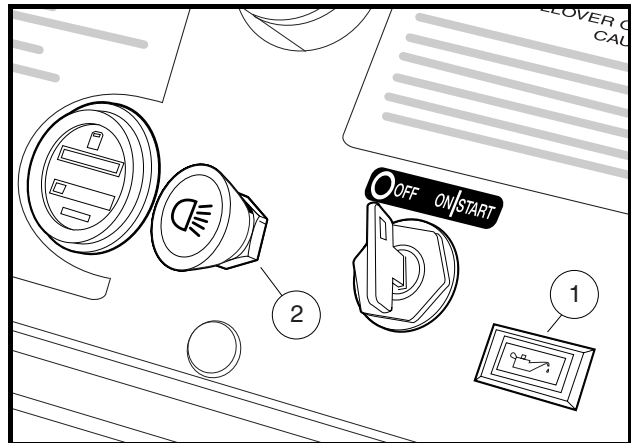

Figure 14 Low Oil Warning Light and Headlight Switch
The gasoline golf car is equipped with a low oil warning light (1), located on the dash panel to the right of the key switch (**Figure 14**). If the warning light comes on, oil should be checked and added to the engine as necessary before continuing to use the vehicle. The vehicle should never be driven with the low oil warning light remaining on. If the warning light goes on and off, you may proceed, but oil should be added at the first opportunity. If the oil level is correct and the warning light stays on, have a trained technician check the vehicle. **See following CAUTION.**
The headlight control (2) is located on the dash to the left of the key switch (**Figure 14**). Pull out to turn the lights on, push in to turn the lights off. The headlights operate on 12 volts DC from the battery. **See following NOTE.**